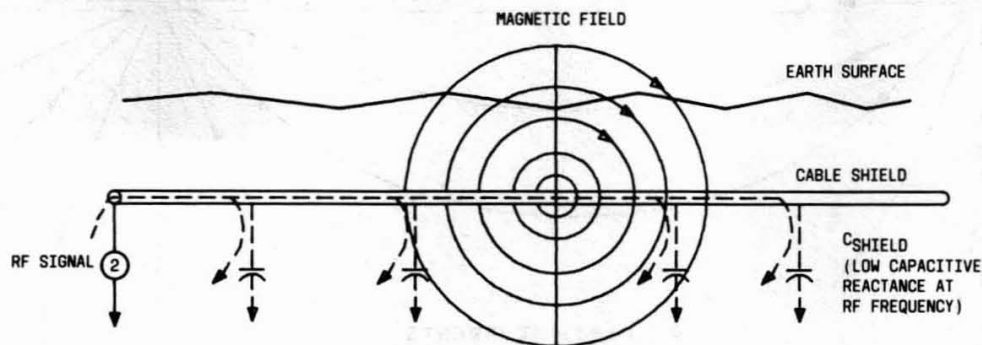
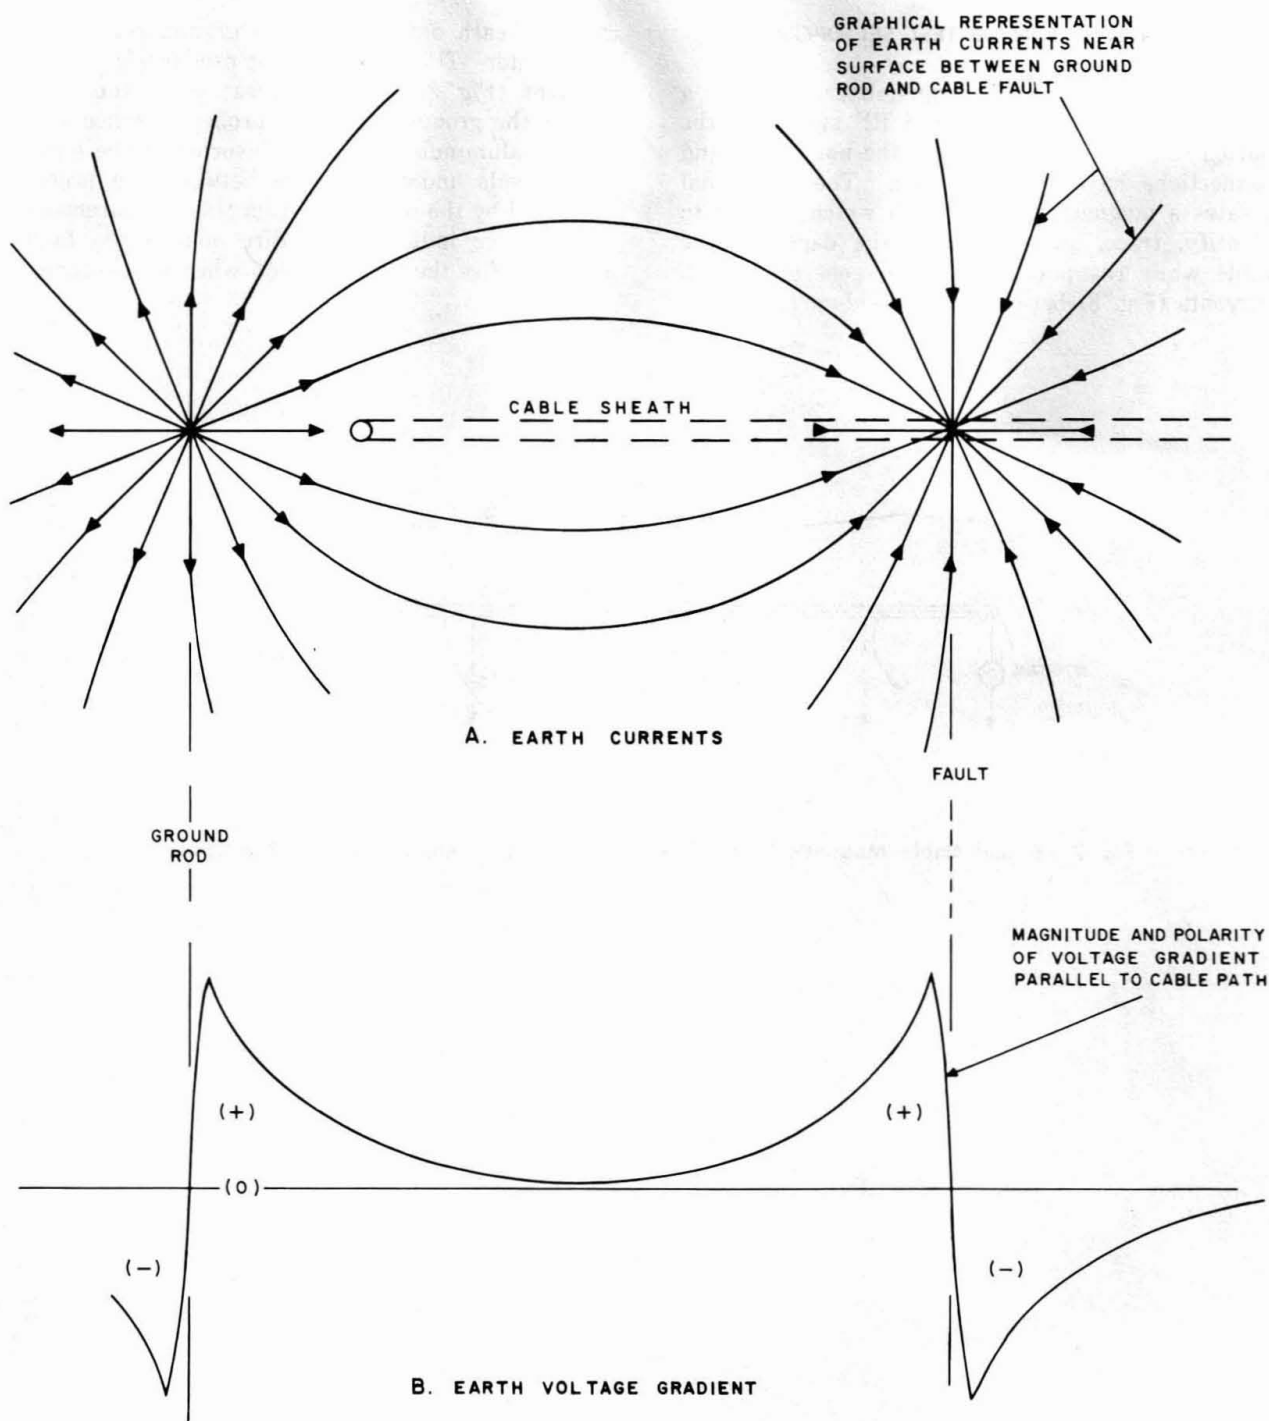

Fig. 7—Buried Cable Magnetic Field With High Frequency Source and Far End Open
Fig. 8—Earth Currents—Earth Voltage Gradient
4.01 In operation, the transmitter imposes a combined pulsed dc and RF signal on the buried cable shield from which the normal ground connections have been removed. The RF signal creates a magnetic field (Fig. 7) which is used to identify, trace, and determine the depth of the cable while the pulsed dc signal generates earth currents (Fig. 8) between the shield-earth contact
at the sheath damage and the ground rod at the transmitter. This earth current produces a voltage gradient (Fig. 8) which is greatest at the fault and at the ground rod. Two probes attached to a tubular aluminum frame are inserted in the earth at intervals and the voltage between the probes measured by the receiver. From this measurement, the receiver indicates the direction to the fault and identifies the fault location when it is reached.